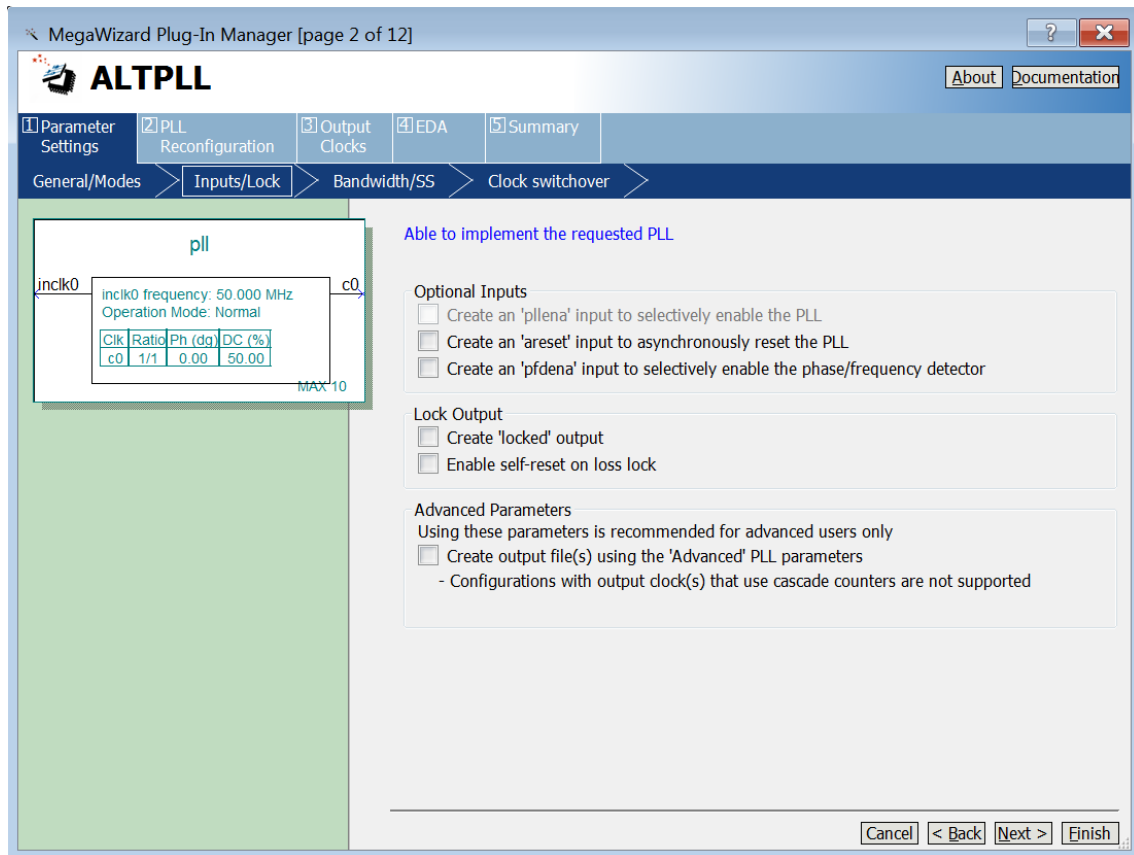

Figure 3-10 MegaWizard Plug-In Manager [page2 of 12] Selections
6. Turn off all options on MegaWizard page 4. As you turn them off, pins disappear from the PLL block's graphical preview. See Figure 3-10 for an example.